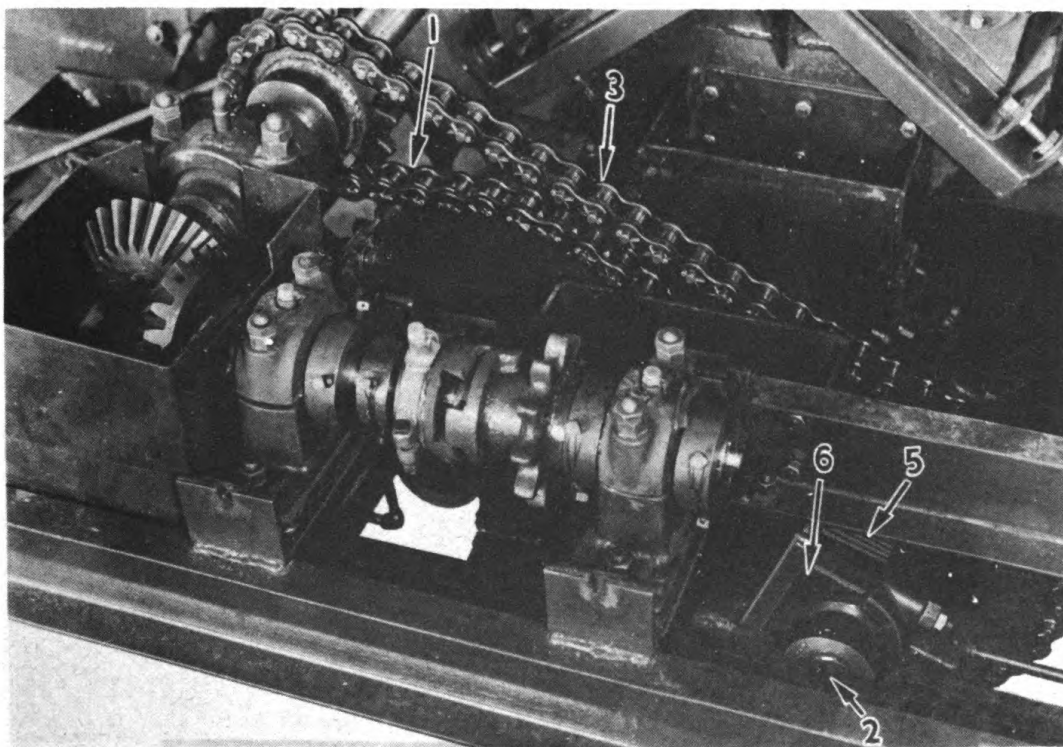

FIG. 32 - ADJUSTMENT OF DRIVE CHAIN FROM
There should be no slack in this chain when properly adjusted. To determine if chain is in proper tension, check the lower run (1) Fig. 32 between the drive sprocket on the main jackshaft and the countershaft sprocket nearest to the jackshaft. To remove slack, lower the countershaft (2). The countershaft should not be lowered, however, to the extent that it will cause the upper run (3) of the chain to come in contact with the lower run (1). A clearance of 1/2" should be maintained between both runs of the chain. If this is not possible, remove the bearing base stop shims (5) from above the bearing bases (6) of the lower countershaft and raise the shaft high enough so that an offset link can be removed from the drive chain.